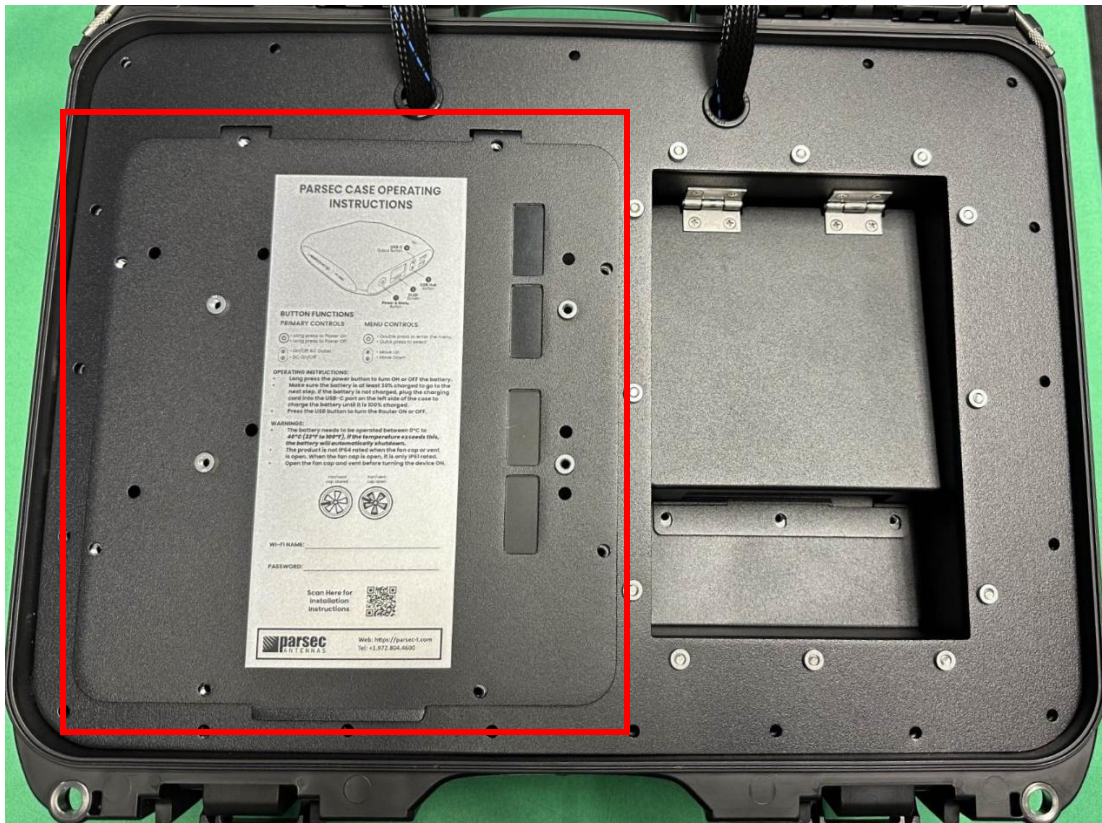

Figure 3: Remove the Router Plate from the Cover Plate.
- A. Remove the Router Plate from the Cover Plate Assembly as shown in Figure 3 to be able to easily install the router to the Router Plate.